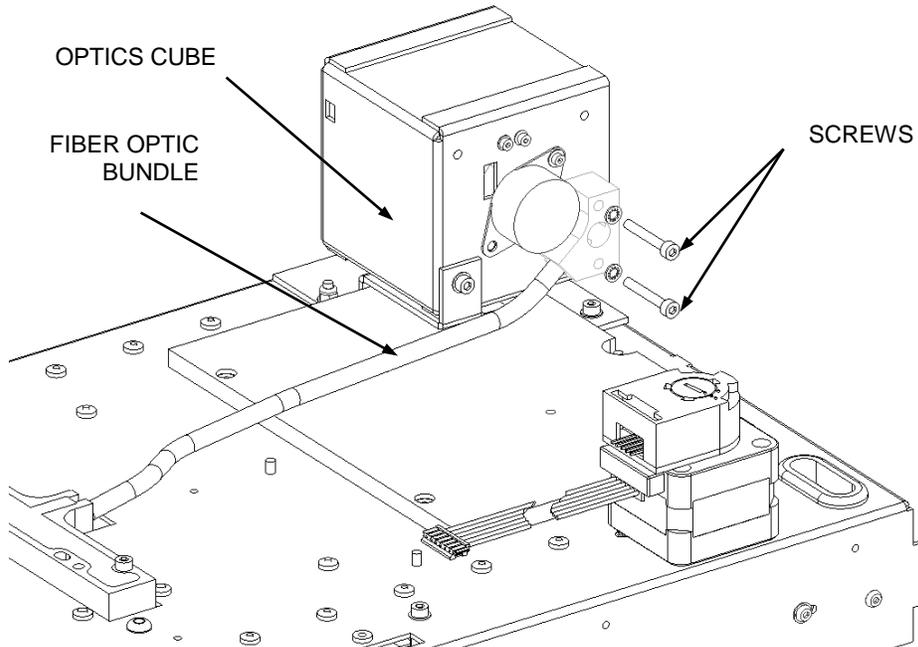

Figure 12-13: Fiber Optics in Optics Cube
1. Remove the Fiber Optic Bundle from the Optic Cube as shown in Figure 12-13.